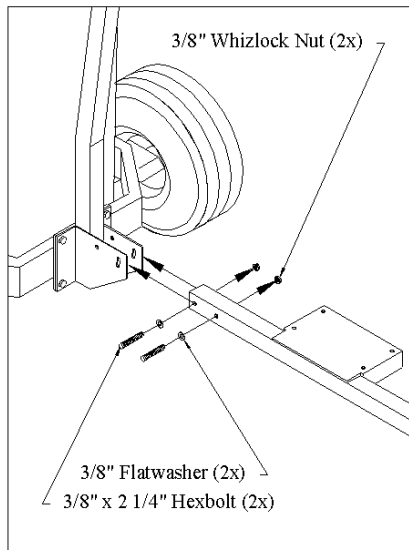

Fig. 5
5. Attach engine frame (1) to vertical upright brackets. Secure with 3/8" x 2 1/4" HHC and flatwasher (under bolt head) and whizlock with nut toward engine. Do not tighten. Attach frame assembly to tractor drawbar with hitch pin (27). Level container frame with ground. Now, tighten all bolts. Fig. 5